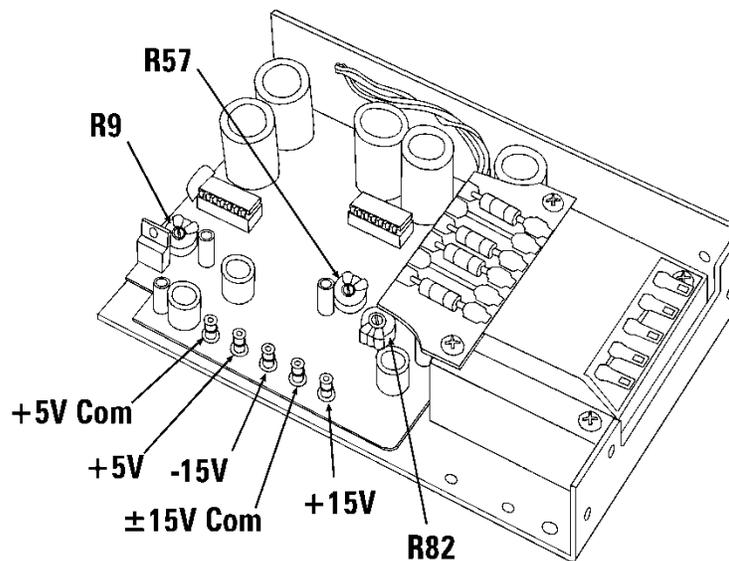

Figure 8.2. Power Supply Adjustment Potentiometers.
4. Refer to Figure 8.2 to locate screwdriver potentiometer settings R9, R57, and R82 for the DC Power Supply. It is located immediately below the oscillator drive electronics.